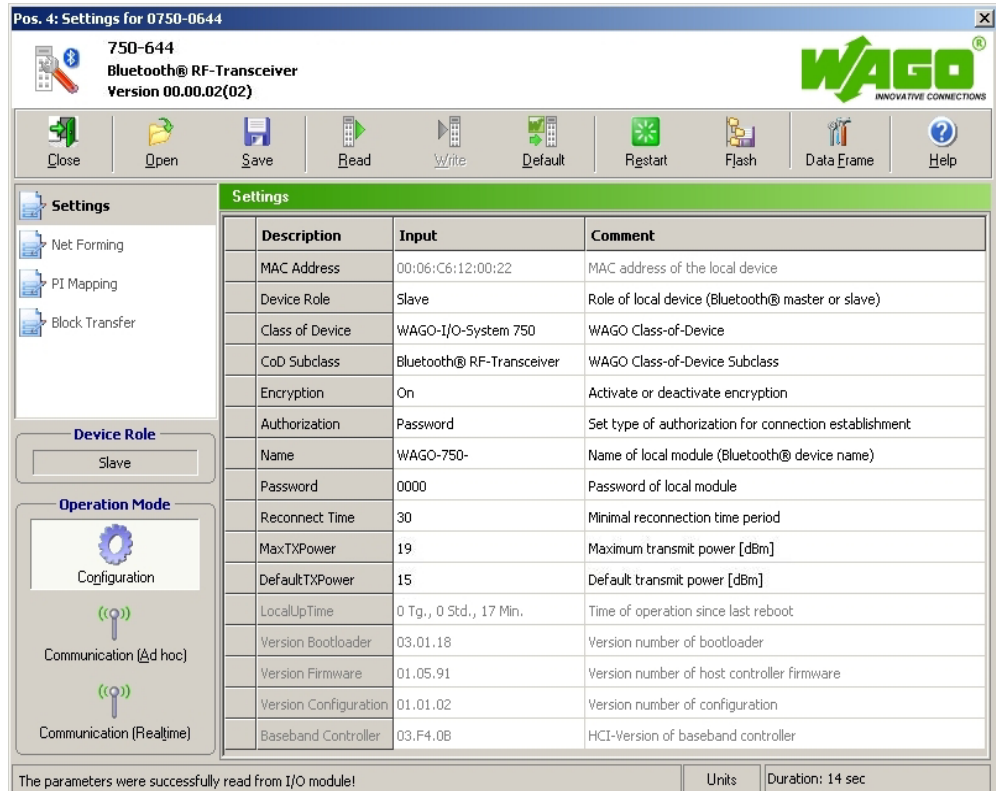

Figure 46: Bluetooth®-specific parameter area
4. In the module's context menu, choose **Settings**. This opens the *Bluetooth®* - specific parameterization dialog of the module (see Figure 46).